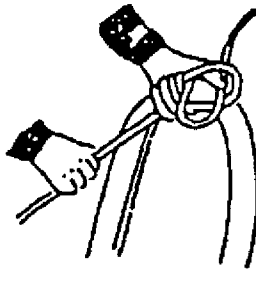

Fig. 3-56-5
- e. Fold the working end into an open loop and insert it through the loop formed by the starting end of the coil. (Fig. 3-56-5)